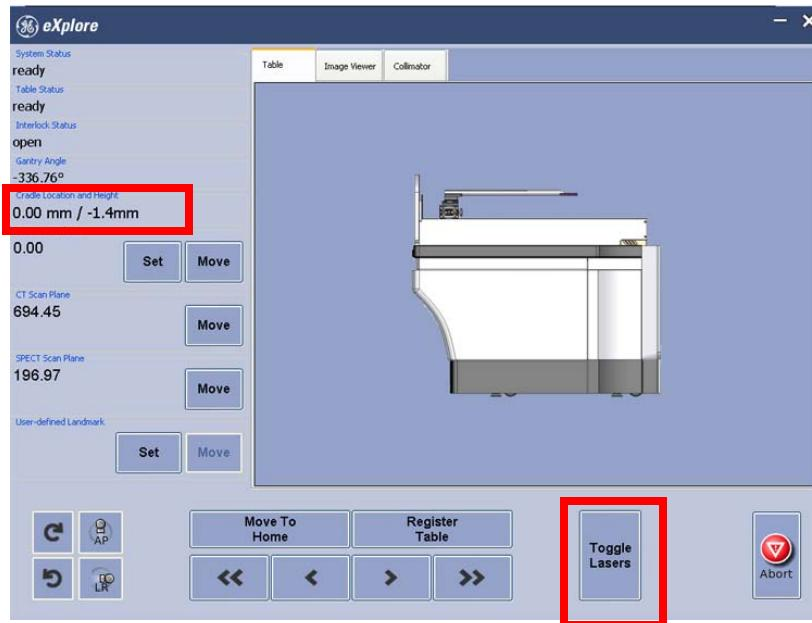

Figure 4-7
16. Toggle the lasers from the Touch Screen and verify that both lasers are working (Figure 4-7).